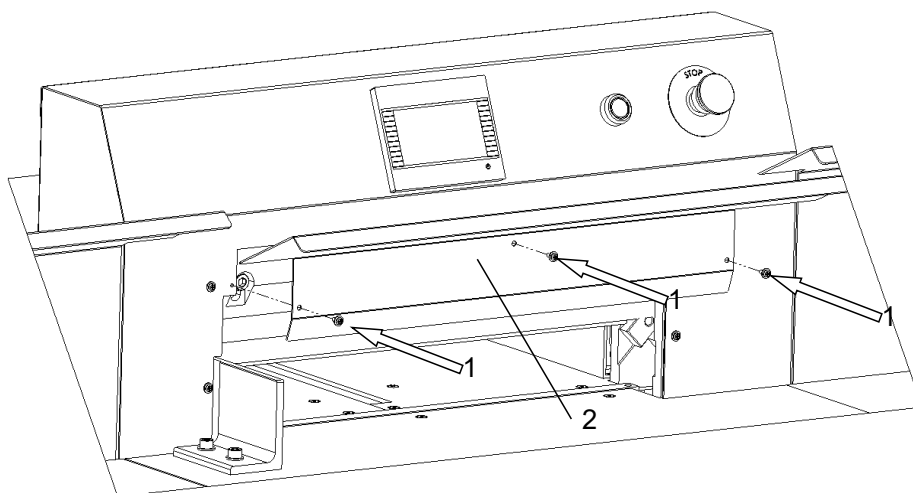

Figure 34.
8.1.2.22 Attach cover 2 with the screws 1 (fig.34)